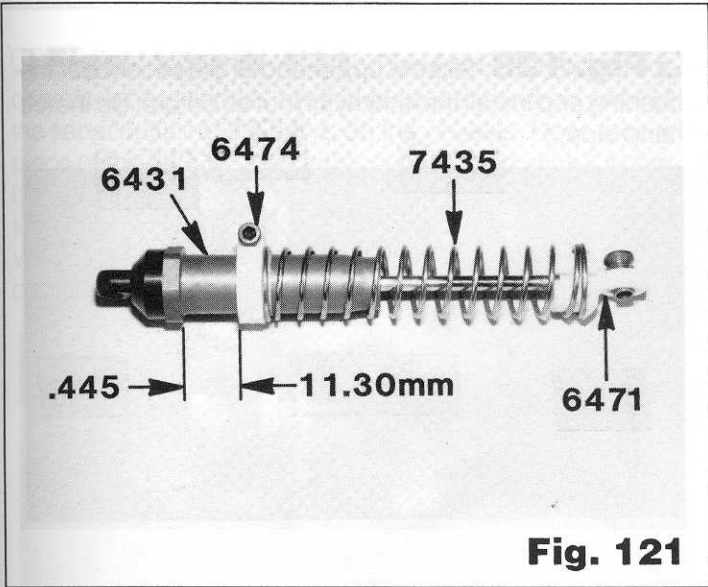

Fig. 121
- Fig. 121** From Bag 7-11 install the two #6474 spring clamps on the rear shocks. The spring should go over the thin flange. Push the screw through the larger hole of the spring clamp and thread it into the smaller hole to tighten. Tighten the screws just enough to lock the collars. DO NOT overtighten. Take the long gold springs and slip them onto the shocks.